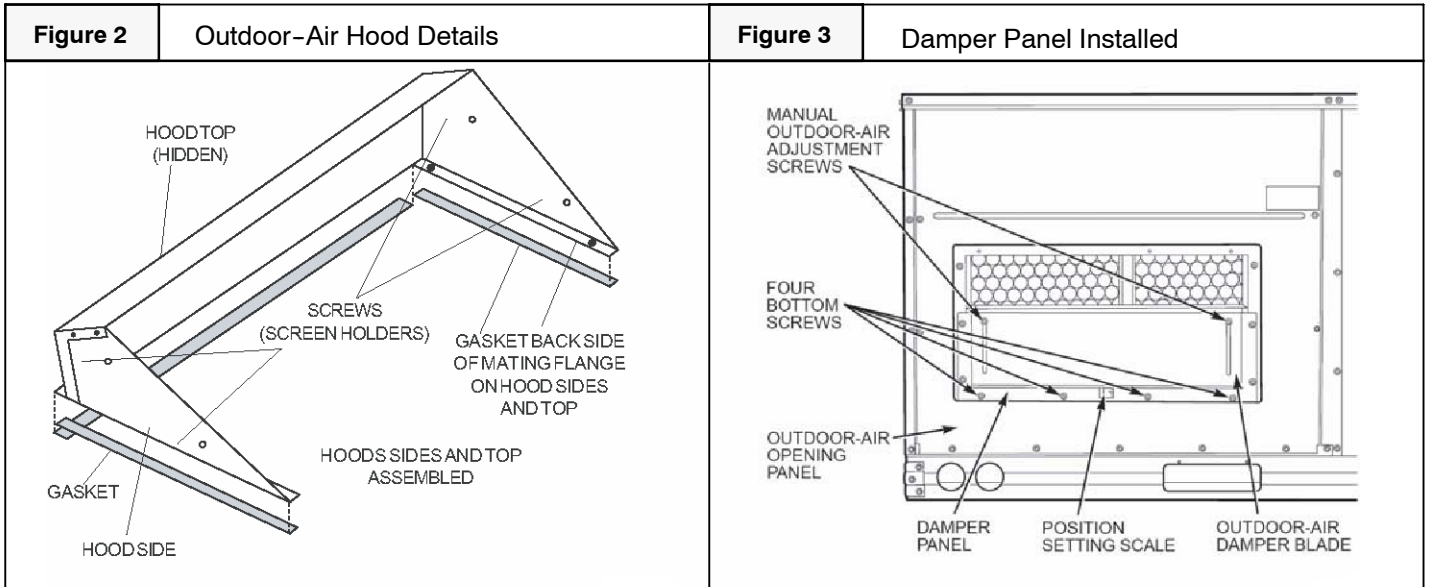

Figure 4 Outdoor-Air Intake Position Setting (2 to 6 Ton Units)
5. Adjust minimum position setting of the outdoor damper blade by adjusting screws on the front of the blade. (See Fig. 3.) Slide blade vertically until blade is in the position determined by Fig. 4 or 5. Tighten screws.